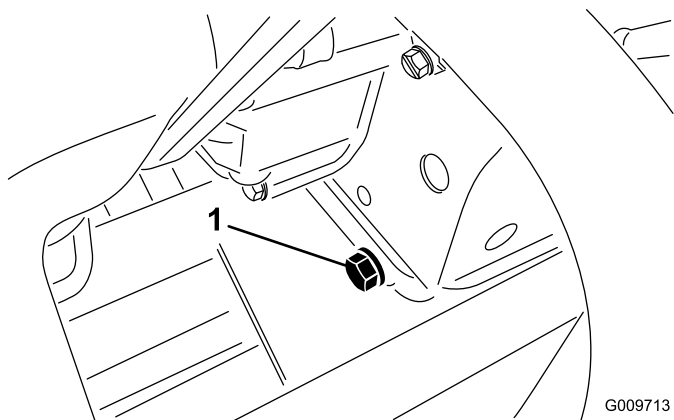

Figure 37
1. Remove the rear drain plug (Figure 37) and let the oil flow into a drain pan. When the oil stops, install the drain plug.